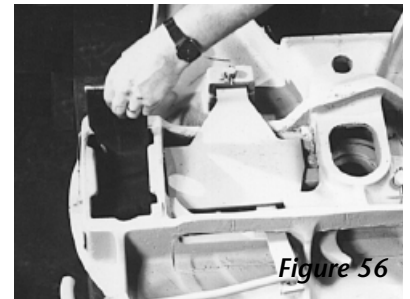

Figure 56
5. After removal of the bracket shoes, use a screwdriver or similar tool to pop one end of the bracket pad out of the place casting pocket and remove at both sides (Figure 56).